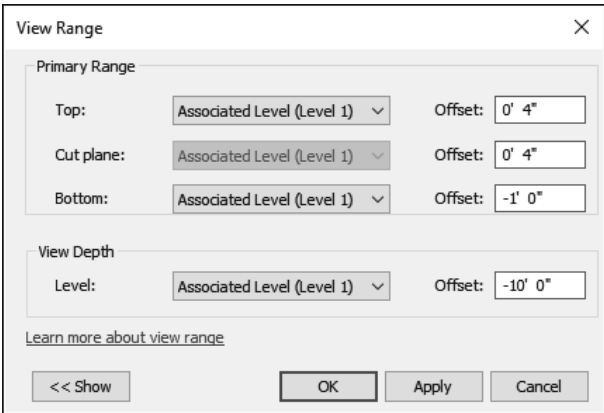

FIGURE 8-5.10 View Range settings
- 44. Change the *Bottom* setting to **-1'-0"** and then change the *View Depth* to **-10'-0"** (see Figure 8-5.10).